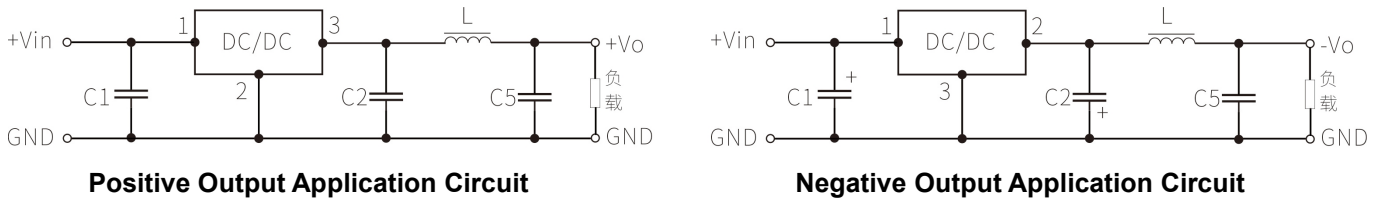

Fig 3: 'LC' Filter Application Circuit
- To further reduce output ripple, an external "LC" filter network can be added at the output end. The recommended value of L is 10μH-47μH, and the recommended value of C5 is 22uF (as shown in Figure 3).